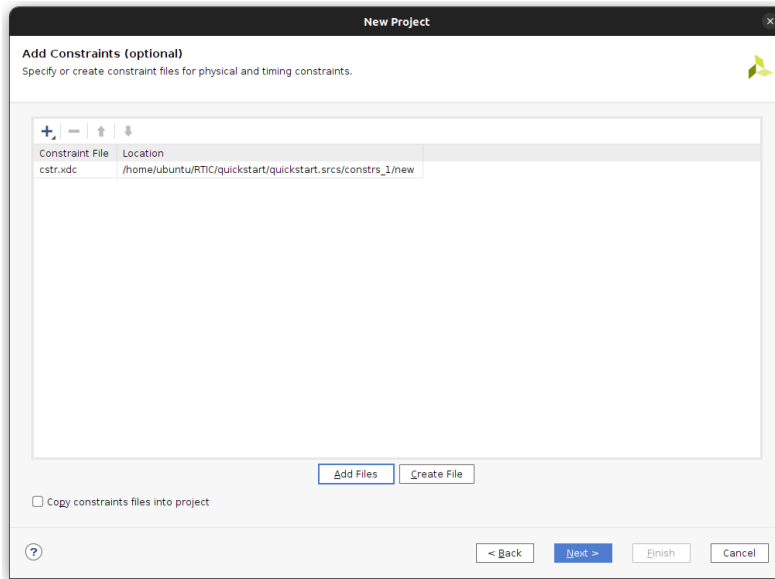

Figure 4: Adding a constraint file to the project
6. Add the `cstr.xdc` file to the constraints (figure 4)